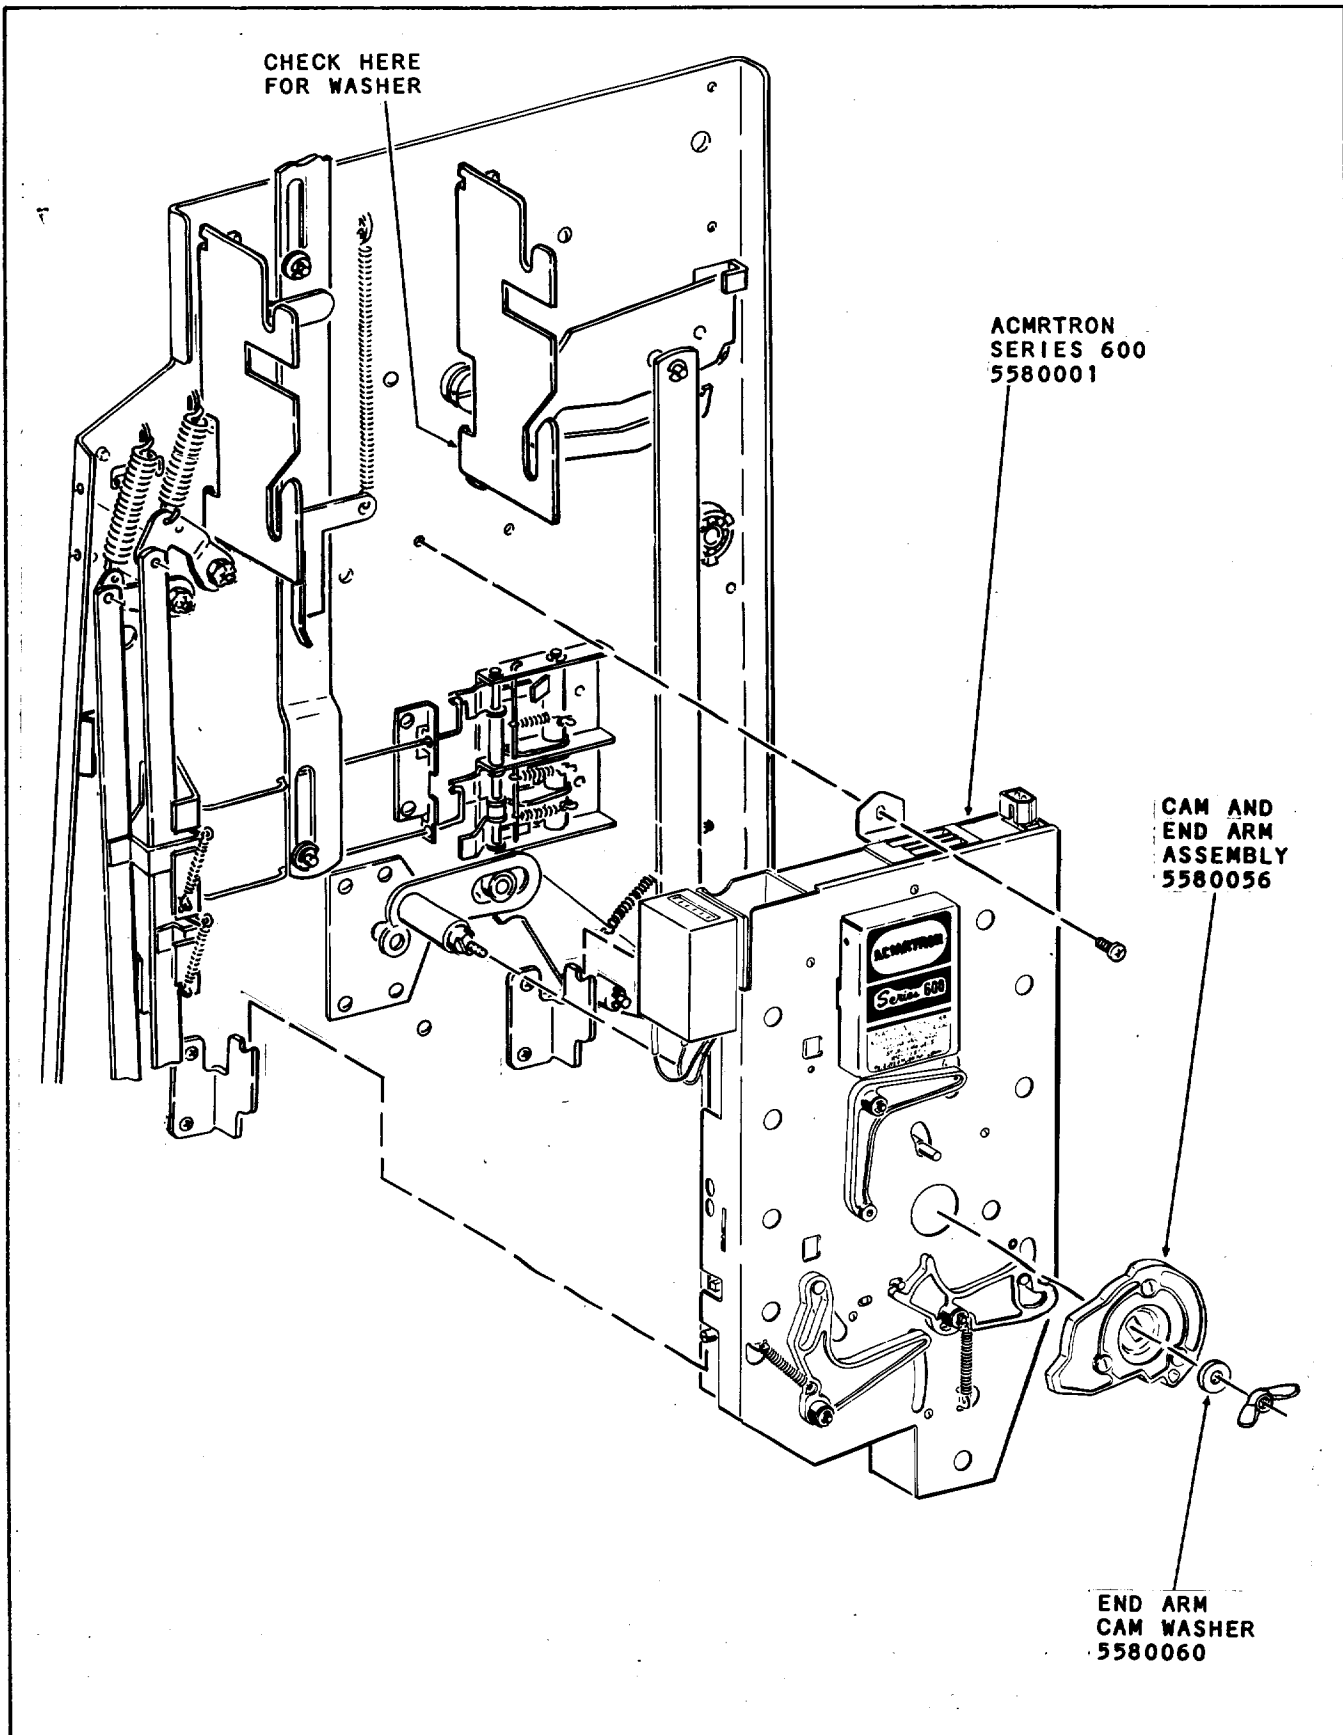

FIGURE 4
3. Take the new coin unit and mount it on the sidewall using the Cam & End Arm Assembly; the new, yellow, End Arm Cam Washer; both supplied with the kit, plus the screw and wing nut previously removed. See Figure 4. Replace the Slug Rejector.
Check the REAR Slug Rejector Bracket before replacing the Slug Rejector. If there is a washer between the Bracket Spacer and sidewall, remove it. See Figure 4.